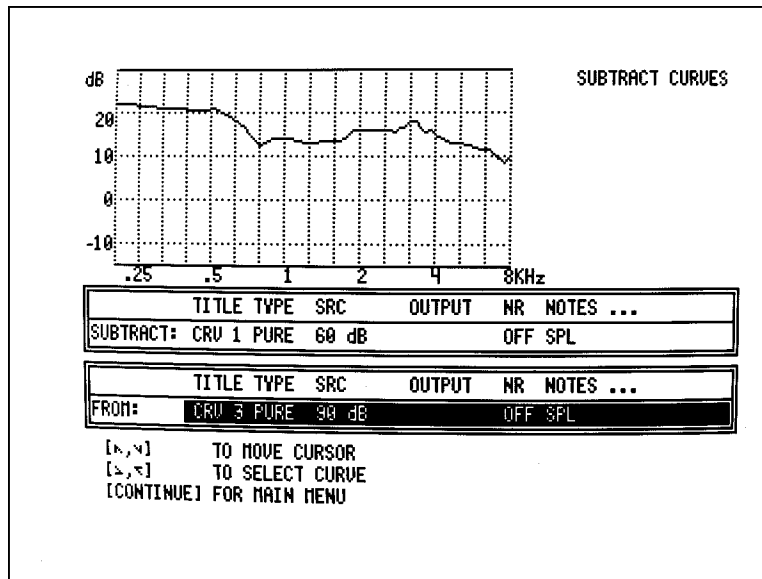

Figure 7.12.7—Subtract Curves display
2. Press [START] to run Subtract Curves. See Figure 7.12.7.